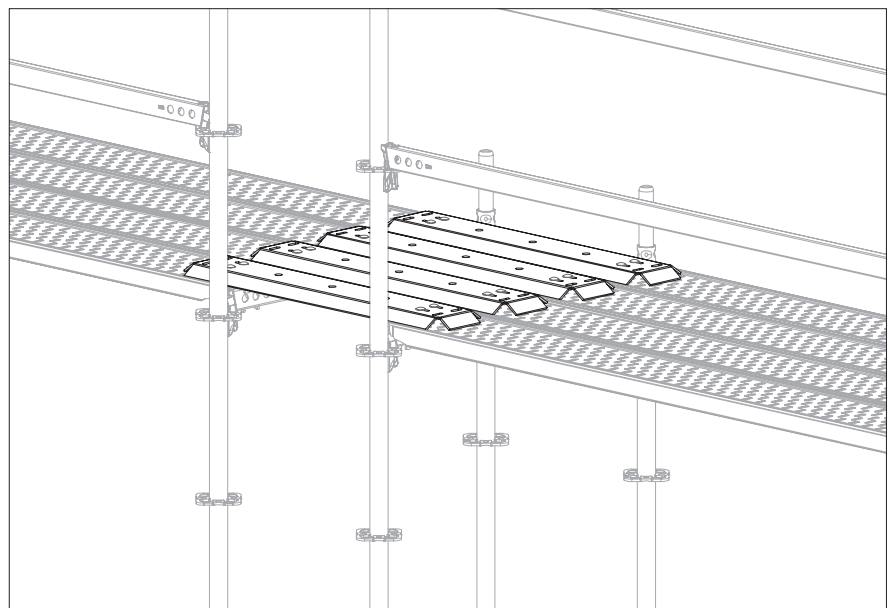

Fig. A7.05b
4. Mount further cover plates in the same way until the deck gap is closed. (Fig. A7.05b)